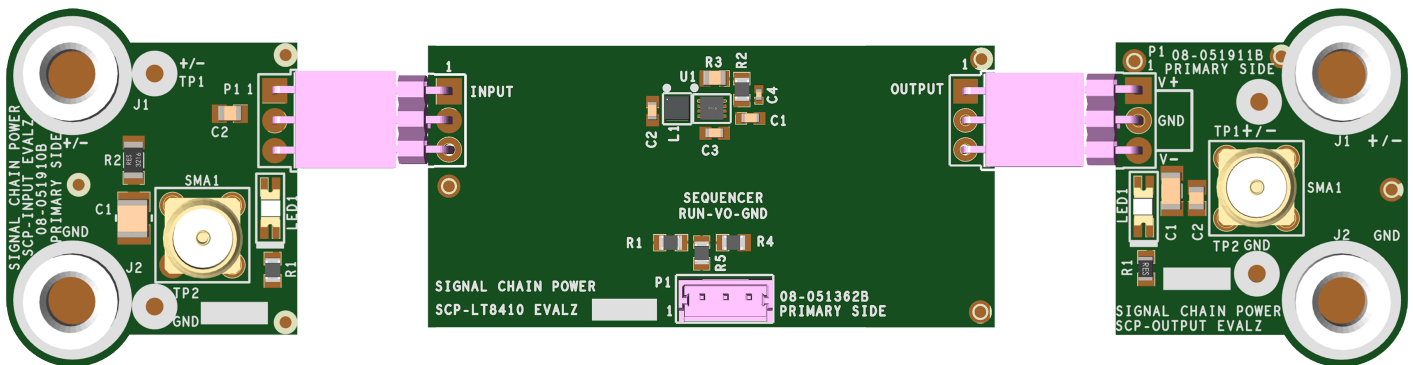

Figure 2. Proper Measurement Equipment Setup (Use SMA connectors for Measuring Input or Output Ripple)
2. Connect the SCP-INPUT-EVALZ and SCP-OUTPUT-EVALZ boards to the SCP-LT8410-EVALZ (refer to Figure 2) and connect the input board to a voltage source, V_{SOURCE} . Connect the output board to a voltmeter or dynamic load. Slowly raise the input voltage until the SCP-LT8410-EVALZ powers up into regulation and sweep V_{SOURCE} through the desired range of operation.